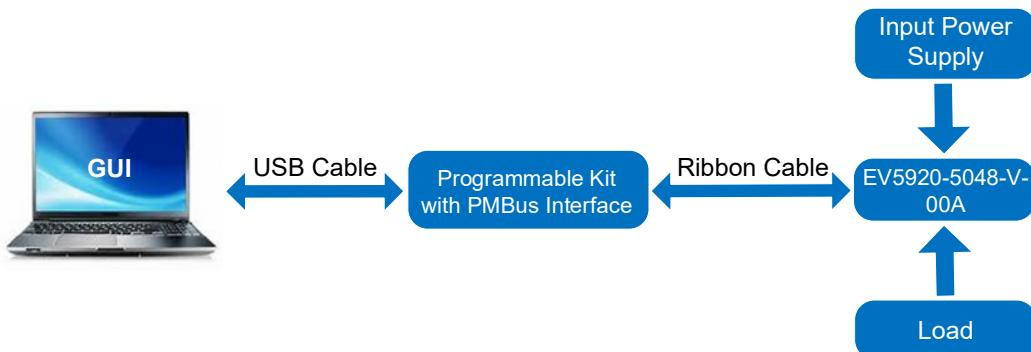

Figure 1: PMBus Connection Diagram
1. Use the PMBus interface kit (EVKT-USBI2C-02) to connect the EV5920-5048-V-00A to a PC (see Figure 1).